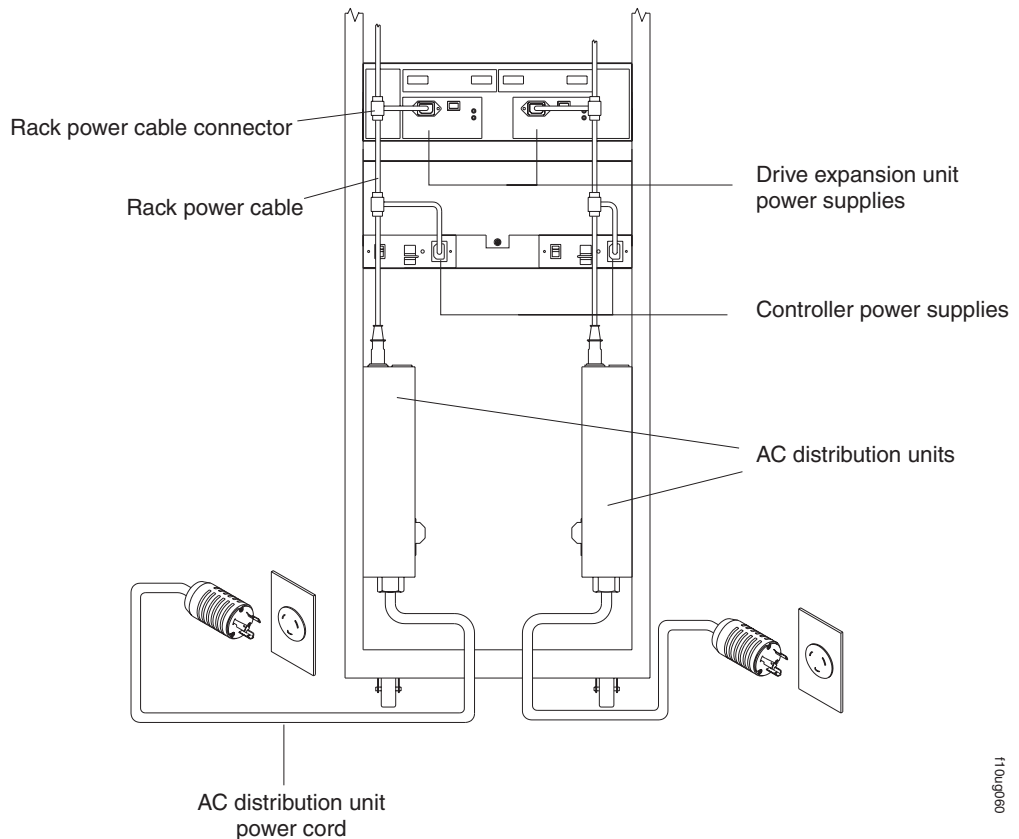

Figure 47. Redundant AC power connections to controllers and drive expansion units
Note: To maintain power redundancy, plug the storage server's right and the left power supplies into two independent external power circuits through ac distribution units inside a rack cabinet or directly into external receptacles. Similarly, the right and left power supplies of the FAST drive enclosures attached to the FAST100 should be plugged into the same two independent external power circuits as the FAST100. See Figure 47 on page 52 for an example of redundant power cabling.
- To maintain power redundancy, plug the storage server's right and the left power supplies into two independent external power circuits through ac distribution units inside a rack cabinet or directly into external receptacles. Similarly, the right and left power supplies of the FAStT drive enclosures attached to the FAStT100 should be plugged into the same two independent external power circuits as the FAStT100. This ensures that the FAStT100 and all its attached drive enclosures will have power if only one power circuit is available. In addition, having all the right or all the left power supplies plug into the same power circuit will enable the components in the storage subsystem to power on simultaneously during an unattended restoration of power. See Figure 47 on page 52 for an example of redundant power connections.